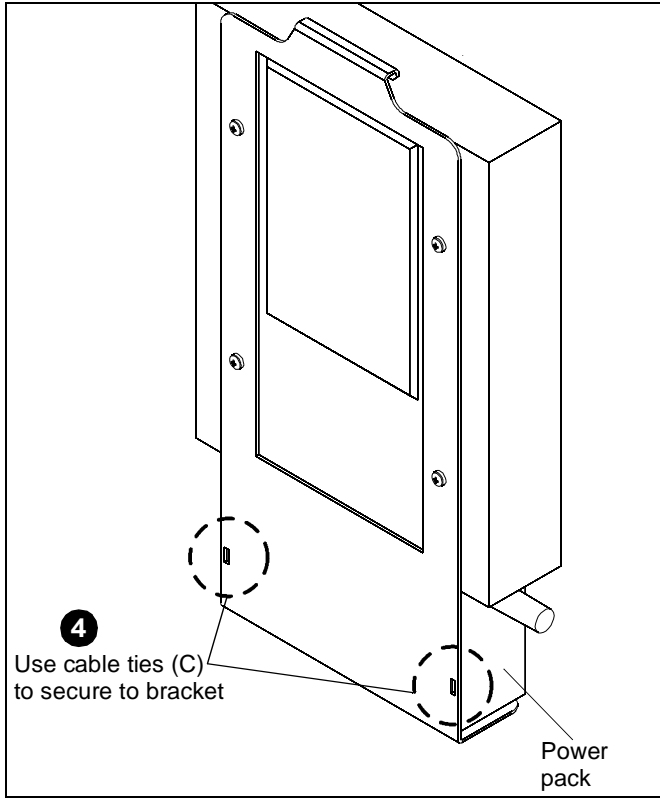

Figure 4
4. Use cable ties (C) to secure CPU power pack to removable bracket (A). (See Figure 4)